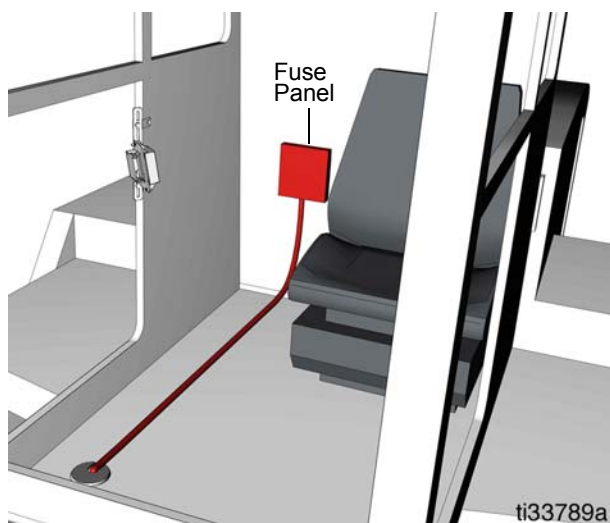

FIG. 17
- If your pump uses a GLC2200 Controller, route the pump power cable into the cab, toward the fuse panel (FIG. 17). See Wiring Guidelines, page 20.